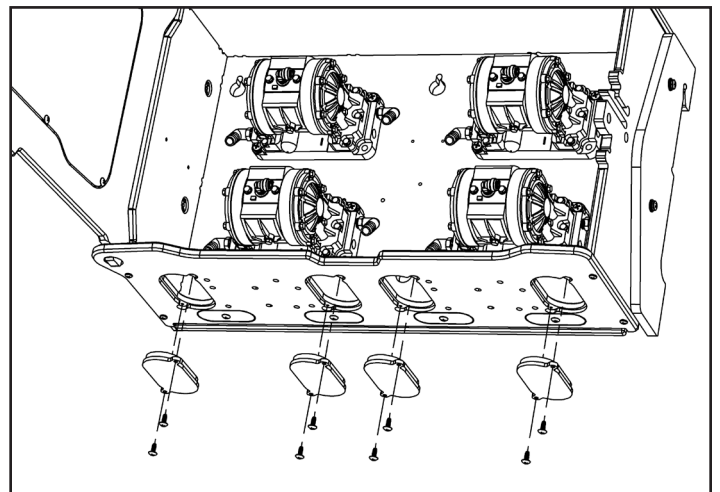

Fig. 6.3: Removing filler plates
3. Remove the filler plates for any hose routing ports to be used [Figure 6.3]